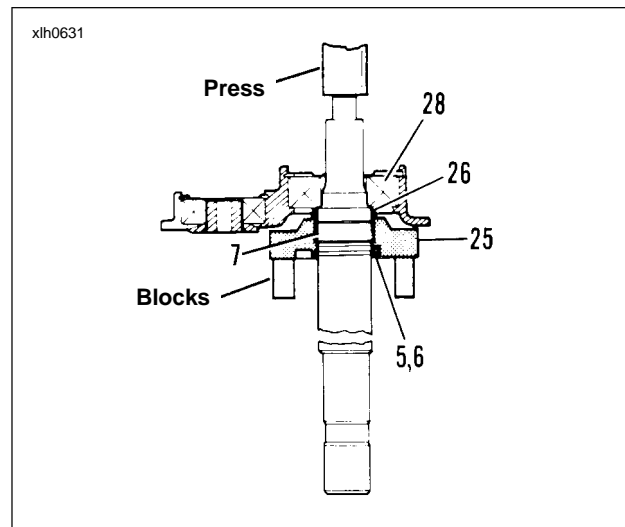

Figure 6-41.
- See Figure 6-41. Place mainshaft and access door assembly on arbor press with support under mainshaft 4th gear (25). Press on end of shaft until mainshaft is free of access door bearing. Remove spacer (26), mainshaft 4th gear (25) and split bearing (7).